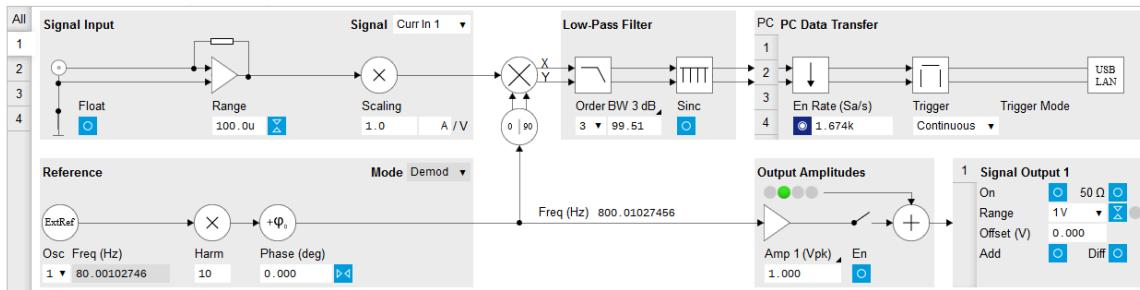

Figure 3.10. Lock-in tab setup for measurement at 800 Hz (with MF-MD option)
*Open the graphical Lock-in tab of the first demodulator. We use this demodulator to perform the lock-in detection. In the Signal Input section of the graphical Lock-in tab, select Current Input 1 and change the input range to 100 μ A. In the Reference section, choose Oscillator 1 and set the Harmonic (Harm) to 10, cf. Figure 3.10. In the circuit diagram of the graphical Lock-in tab, you should observe the numeric value of the demodulation frequency, 800 Hz. Set the Low-Pass Filter to 100 Hz (3rd order) and enable the data stream in the PC Data Transfer section.